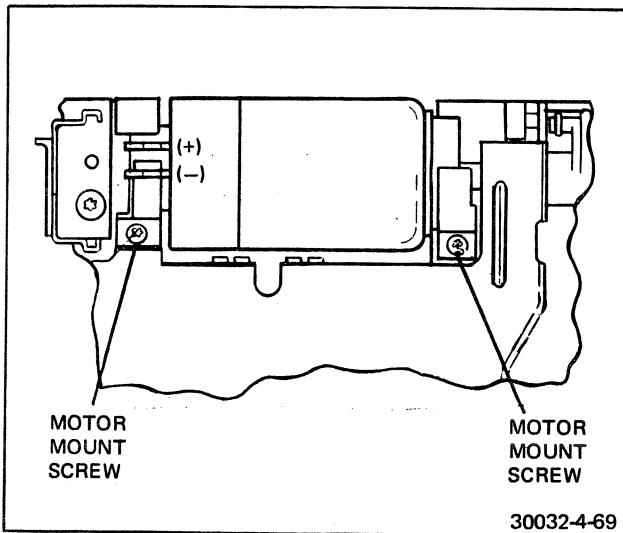

FIGURE 4-69 MOTOR MOUNT SCREWS
13. The motor is secured in place by two curved clamps that partially encircle the motor bearing housings. Each clamp is secured by a single screw. Loosen the two screws and swing aside the two clamps. See Figure 4-69.